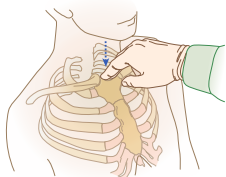

FIGURE 1
3. **Locate insertion site.** (See Figures 1 and 2)